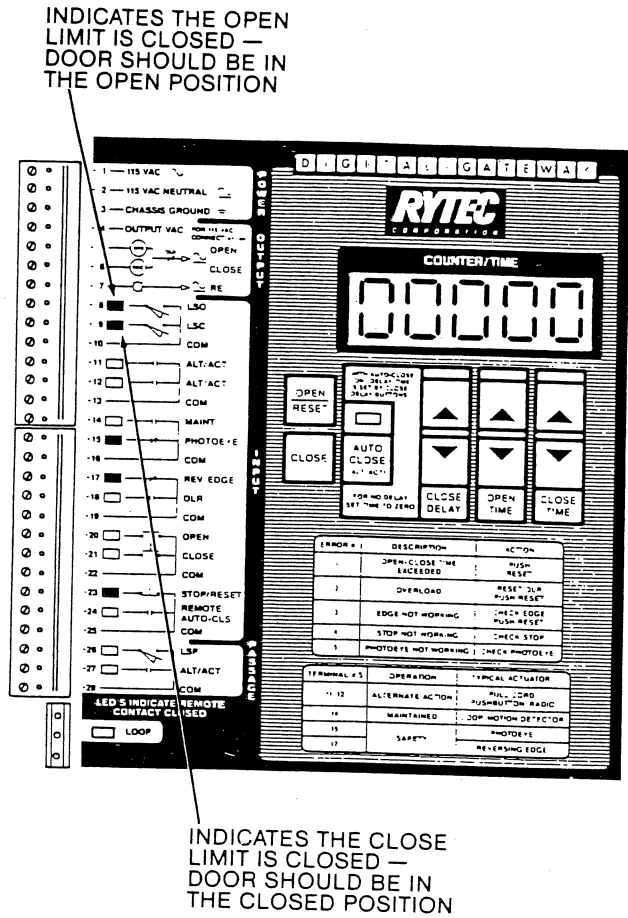

Figure 6.
1.7.3 Press the Open/Reset button. The display will read "000000." See Figure 6.
1.10 Use the jog button to completely open the door. Adjust the open limit switch until the LSO LED on the Digital Gateway® comes on. Jog the door completely closed and adjust the close limit switch until the LSC LED comes on. See Figure 6.